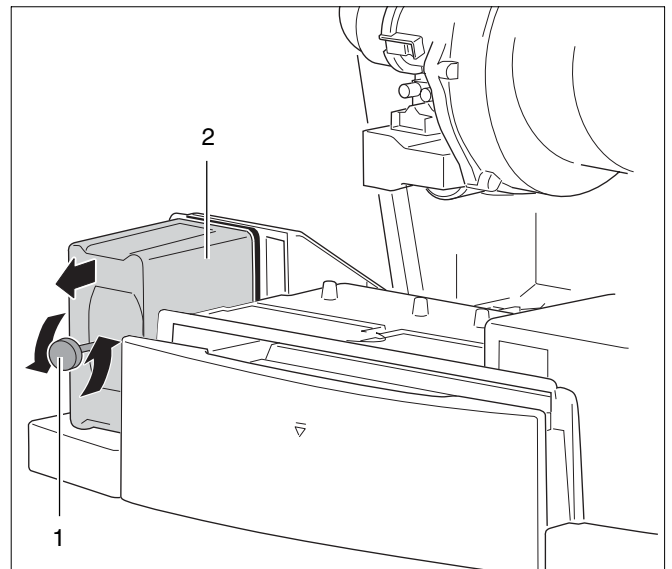

Fig. 48 Dismantling the UBA3
- Loosen the fastening screw of the UBA3 (see fig. 48, pos. 1).
- Remove the UBA3 by pulling it forward as indicated by the arrow (see fig. 48, pos. 2).